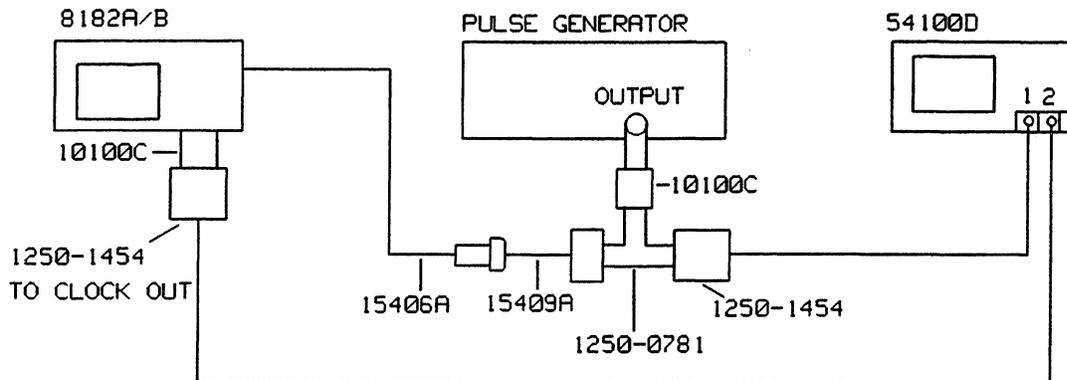

Figure 12-4. Test Setup for the Clock Delay Test
4. Connect the equipment as shown in Figure 12-4.